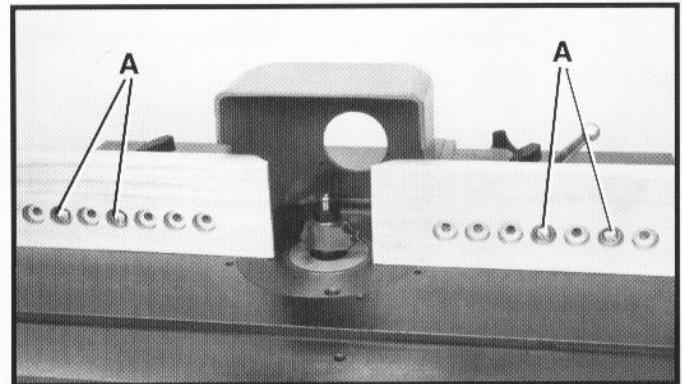

Fig. 24
To adjust the fence endwise, loosen the screws (A), Fig. 24, from each section of the wooden fence. Move the fences to the required positions and tighten the screws (A). If additional adjustment is required, remove the screws (A), and reposition them in different holes in the fence until the desired position is obtained.